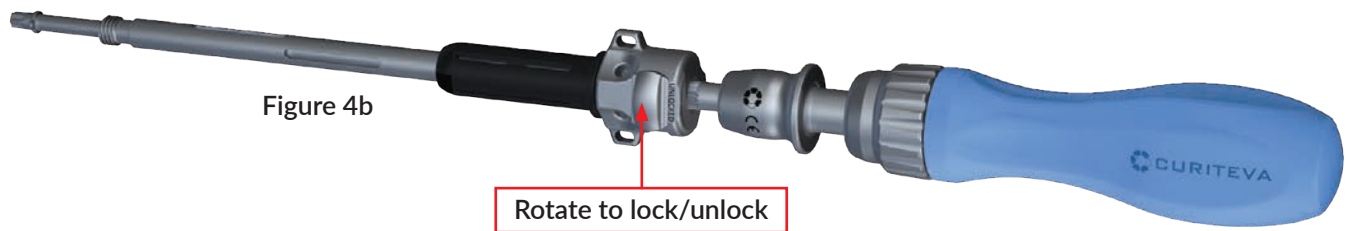

Figure 4b
- Connect either the **Ratcheting Axial Handle** or **Ratcheting T-Handle** to the **Extended Tab Pedicle Screw Driver**. (**Figure 4b**)